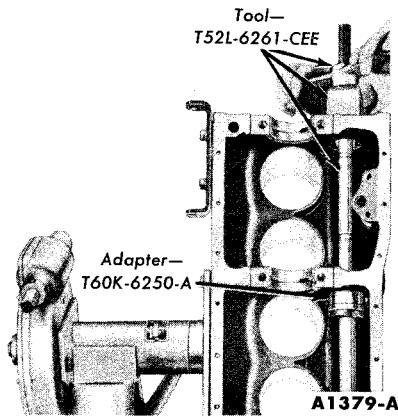

FIG. 85—Camshaft Bearing Replacement
2. Remove the camshaft bearings (Fig. 85).
3. Position the bearings in the bearing bores and press them into place (Fig. 85). **No. 1 camshaft bearing must be pressed in 0.100-0.140 inch below the front face of the bearing bore. Press the remaining bearings in sufficiently to align the oil supply holes. The No. 4 bearing has two oil holes.**
23. Remove the camshaft bearings (Fig. 85).